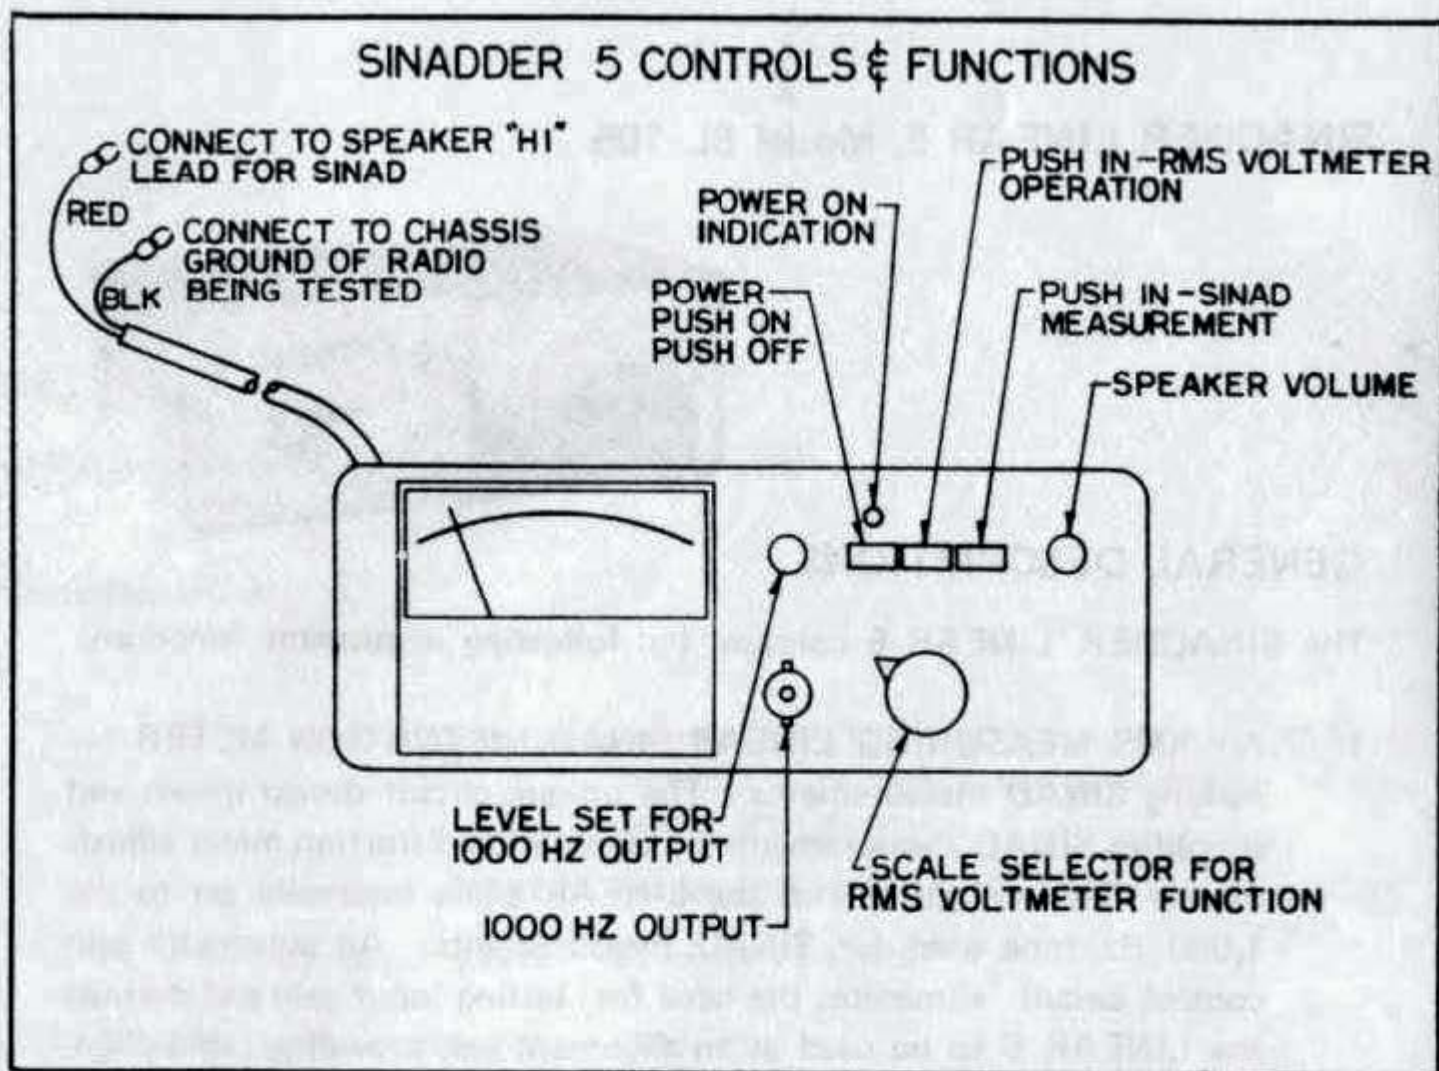

Figure 1
*Refer to Figure 1, "Operating Controls".*